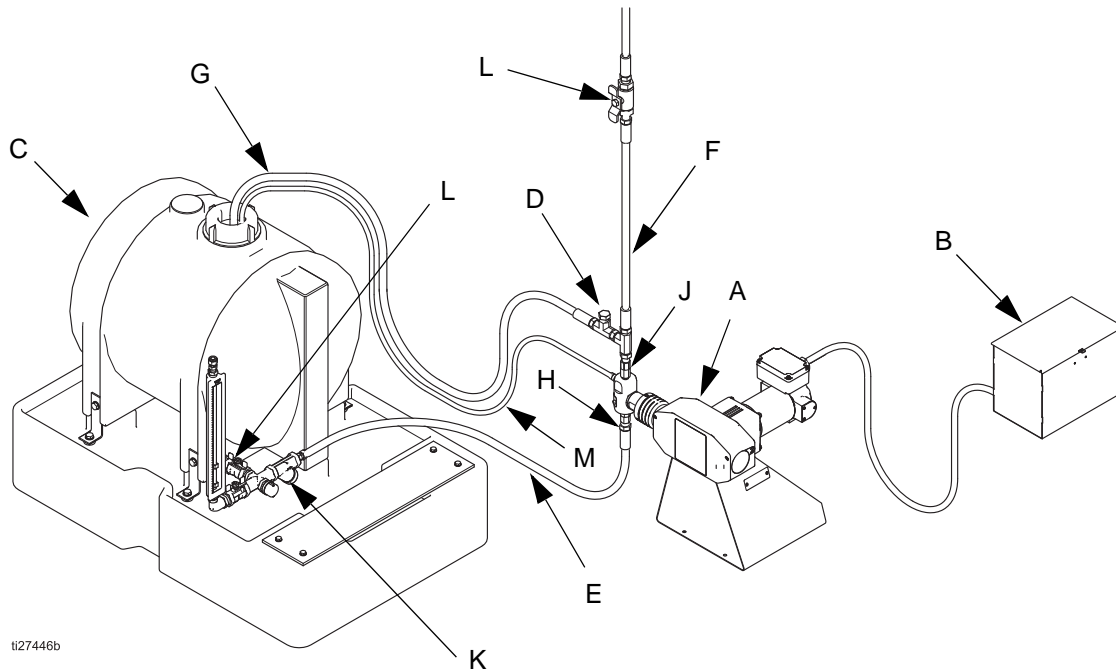
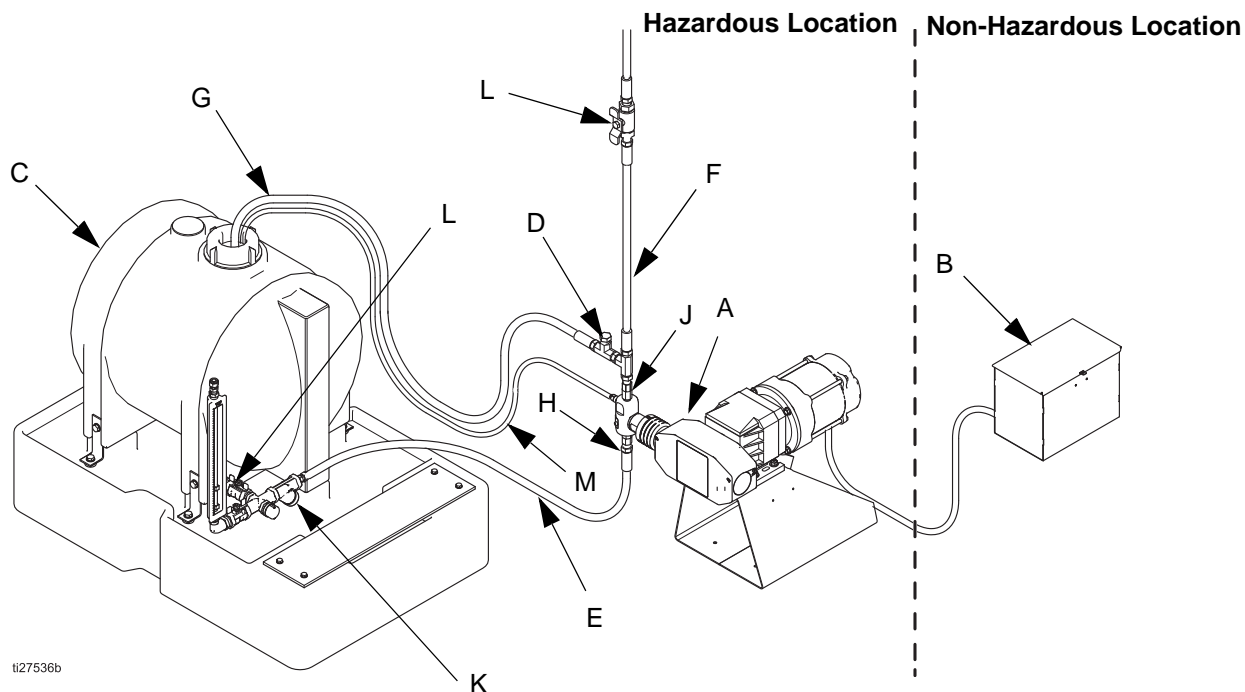

FIG. 6 Typical Installation in Ordinary Location with Generic Power Source
FIG. 7 Typical Installation in Hazardous Location with Generic Power Source
Install the following required accessories in the order shown in FIG. 6 and FIG. 7, using adapters as necessary. See **Kits and Accessories** starting on page 44.
FIG. 6 is an example of an installation with a Wolverine chemical injection pump. Your installation may differ from what is shown here. (See **Accessories** on page 16.) The Wolverine pump (A) is the only component in FIG. 6 supplied by Graco. All other components are supplied by customer.
FIG. 7 is an example of an installation with a Wolverine Hazardous Location chemical injection pump. Your installation may differ from what is shown here. (See **Accessories** on page 16.) The Wolverine pump (A) is the only component in FIG. 7 supplied by Graco. All other components are supplied by customer.
- If you have a mounting configuration that requires installation in a manner different than depicted in FIG. 6 or FIG. 7, please contact your Graco distributor for assistance.
2. Connect a 1/4 npt(f) fluid line from the fluid source to the inlet check valve (K). See FIG. 6 on page 17, or FIG. 7 on page 18.
3. Install a pressure relief valve (F) on the outlet side of the pump.